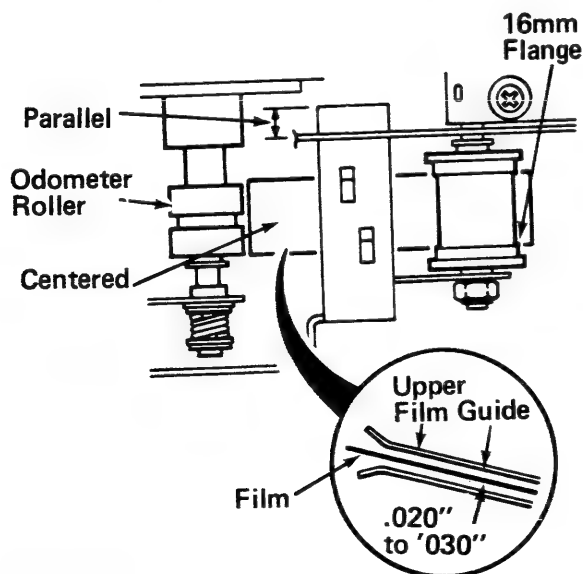
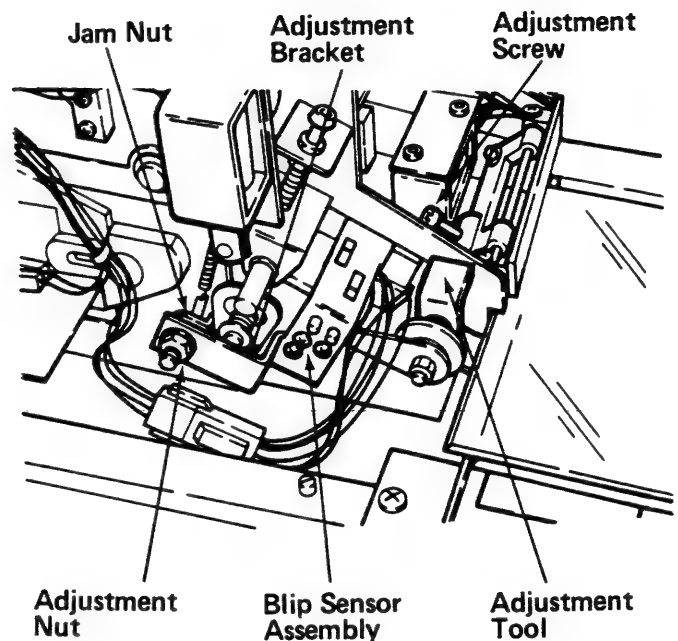

Figure 3-2A
Figure 3-2B
2. Visually ensure the Blip Sensor Assembly is parallel with the frame of the M-654 (Figure 3-2A) and that the Film Guide is centered on the Odometer Roller (Figure 3-2A).
3. Place the Blip Sensor Assembly Adjustment Tool against the 16 mm flange of the Left Film Roller (Figure 3-2A and 3-2B). The tool should touch the frame of the M-654.
4. Insert a 0.25 in. (0.64 mm) Feeler Gauge between the Upper Film Guide and film. Film should be 0.020 in. to 0.030 in. (0.51 mm to 0.76 mm) from the bottom surface of the Upper Film Guide (Figure 3-2A).
1. Loosen the Adjustment Screw for the Left Film Roller and with the Blip Sensor Assembly Adjustment Tool against the 16 mm flange, push the left Film Roller and tool against the frame and tighten the Adjustment Screw (Figure 3-2A and 3-2B).
3. Adjust the Blip Sensor assembly up or down so that the film is between 0.020 inch to 0.030 inch (0.51 to 0.76 mm) from the bottom surface of the Upper Film Guide (Figure 3-2A) and tighten the Jam Nut (Figure 3-2B).